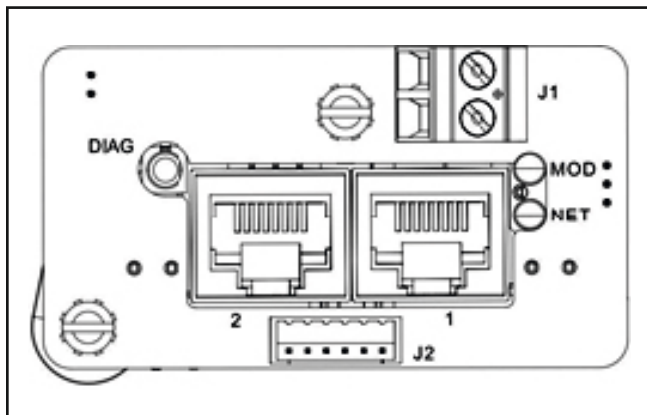

Figure 1-11 Layout under the Top Cover
- 2.5 mm female jack for RS485 diagnostic port, which is located under the top cover (Figure 1-11)